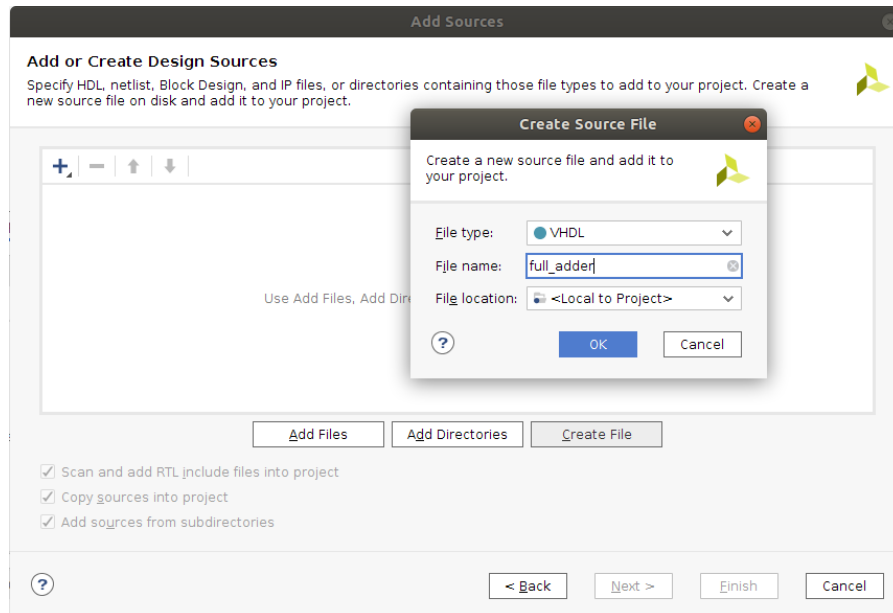

Figure 8 Creating a VHDL source file
3. We select “Create File...” to add our first VHDL file as shown in Figure 8. Select “VHDL” in the field “File type:” and name the file “full\_adder”. Press “OK” and then “Finish”. By default the file will be created local to your project in a directory named “<project\_name>.srcs/new”. Optionally, you can specify a different location by changing the field “File Location”.